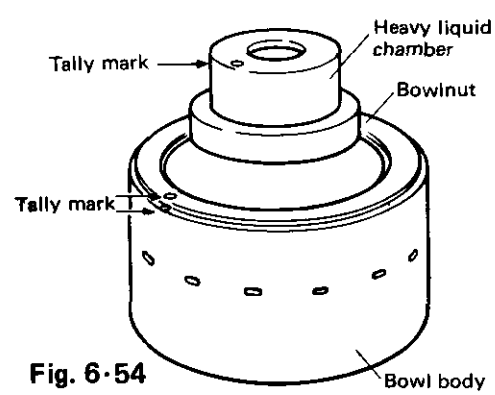

Fig. 6-54
- (8) In order to prevent unbalance, align the tally mark of bowl nut and heavy liquid chamber with the tally mark of bowl body. (Refer to fig. 6.54)
- (9) After assembling bowl in SELFJECTOR, use cap nut spanner to tighten cap nut positively.